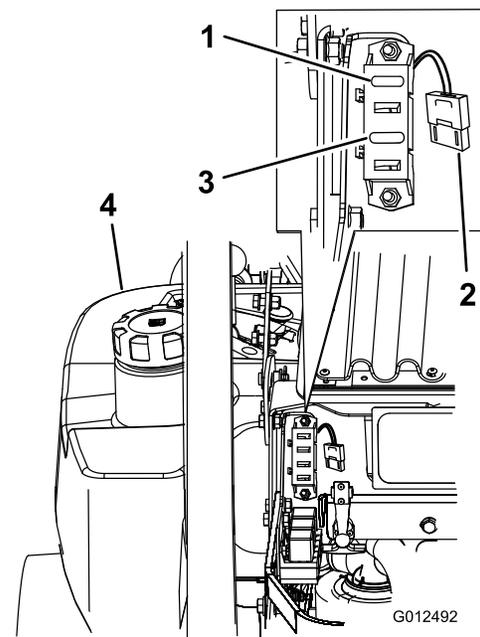

Figure 75
1. Unlatch the engine hood and raise the engine hood to gain access to fuse holder (Figure 75).
3. Install a new fuse (Figure 75).